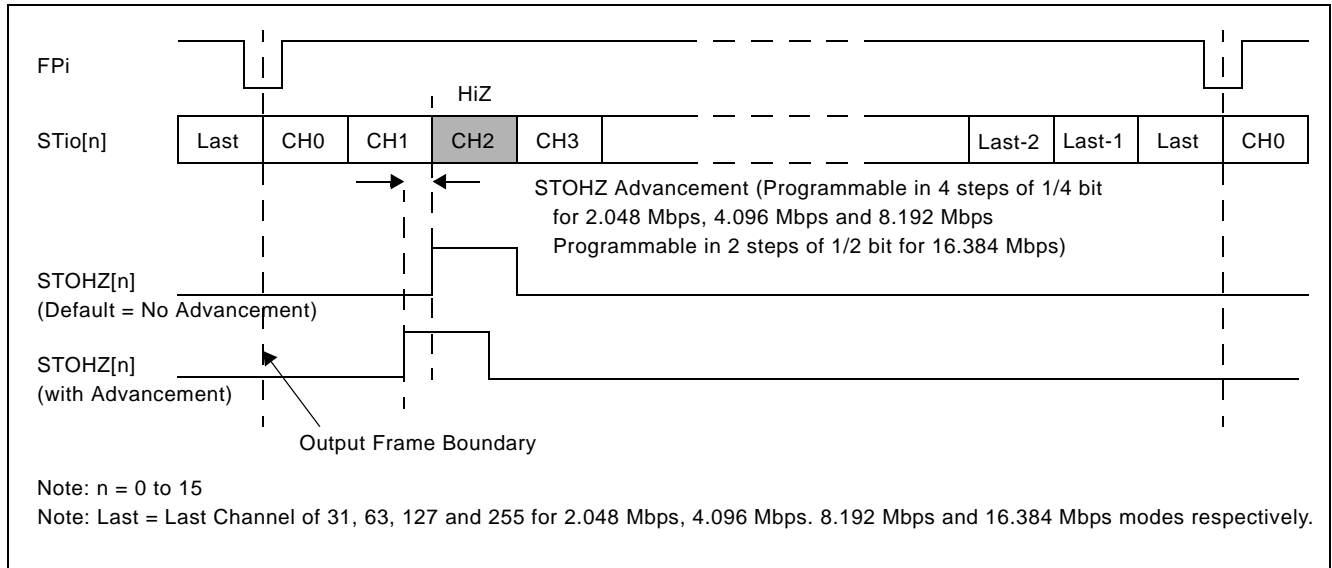

Figure 16 - Channel Switching External High Impedance Control Timing
There are 16 external high impedance control signals, STOHZ0 - 7, that are used to control the external drivers for per-channel high impedance operations. Only the first eight ST-BUS/GCI-Bus (STio0 - 7) outputs are provided with corresponding STOHZ signals. The STOHZ outputs deliver the appropriate number of control timeslot channels based on the output stream data rate. Each control timeslot lasts for one channel time. When the ODE pin is high and the OSB (bit 2) of the Control Register (CR) is also high, STOHZ0 - 7 are enabled. When the ODE pin, OSB (bit 2) of the Control Register (CR) or the RESET pin is low, STOHZ0 - 7 are driven high, together with all the ST-BUS/GCI-Bus outputs being tristated. Under normal operation, the corresponding STOHZ outputs of any unused ST-BUS/GCI-Bus channel (high impedance) are driven high. Refer to Figure 16 on page 25 for a diagrammatical explanation.